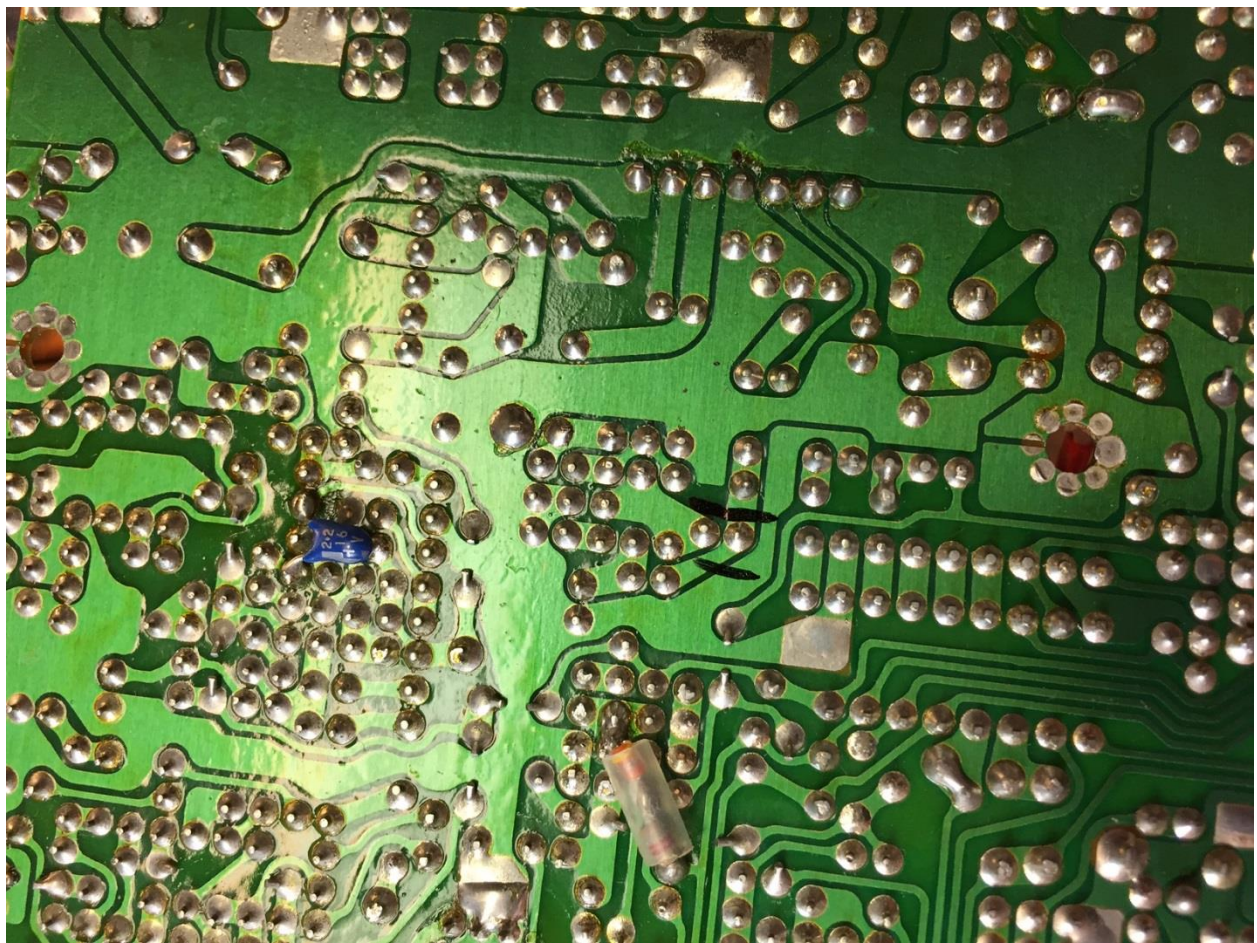

Figure 6. The two black lines mark the location of C279 on underside of the board
4. Locate the capacitor on the underside of the board and unsolder and remove it (Figures 6 and 7)